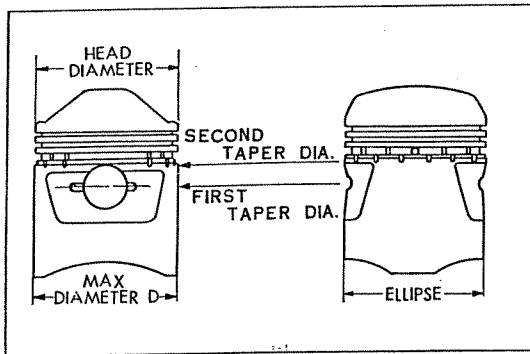

Fig. 3.97 Measuring piston outside diameter
2. Sandpaper should not be used for removing. Measurement of outside diameter of the piston. (Refer to Fig. 3.97)